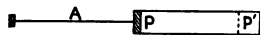

Fig. 40.
11. Let the area of the piston in Fig. 40 be 4 sq. cm., and the depth of the cylinder 20 cm. The atmospheric pressure being 1 kg. per sq. cm., with how many kilograms pressure must a man push upon the piston rod *A* to force the piston *P* into the cylinder 15 cm. deep to *P'*, provided air in cylinder is kept at the same temperature?